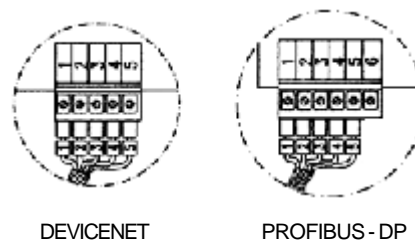

Figure 8.38 - Connection to the Fieldbus board
6. Connect the other cable end of the Fieldbus connector to the electronic Fieldbus board, as shown in Figure 8.38.